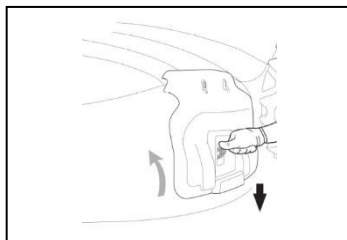

Fig. 8D
6.2.2 Push the safety lever slightly and open the side discharge guard, Insert the side discharge chute; Fig. 8D/E/F